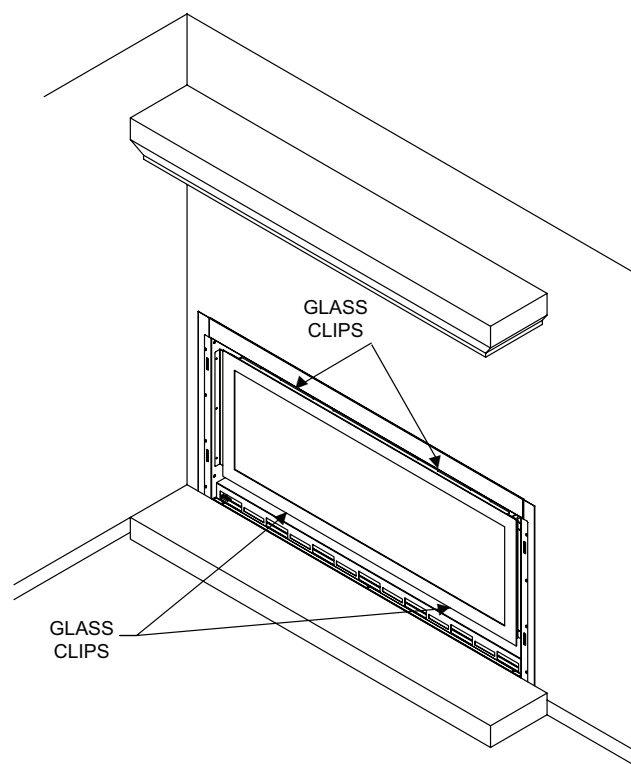

Figure 57
4. To replace, reverse the above steps. See **Figure 57**.
- Check all latches or other door retention components for proper operation, tension, and relief mechanisms are free from obstructions. **See Figure 57.**